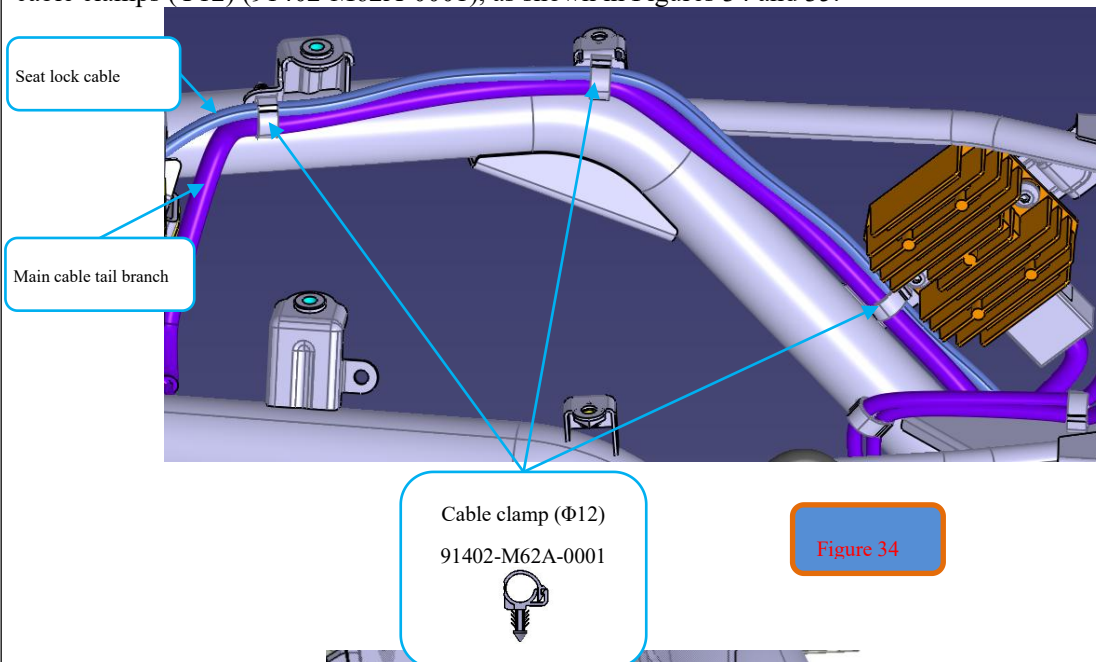

Figure 34
13. Route the main cable tail branch and the seat lock cable side by side along the frame, with the main cable on the lower side and the seat lock cable on the upper side. Secure the lines together to the frame with three cable clamps (Φ12) (91402-M62A-0001), as shown in Figures 34 and 35.